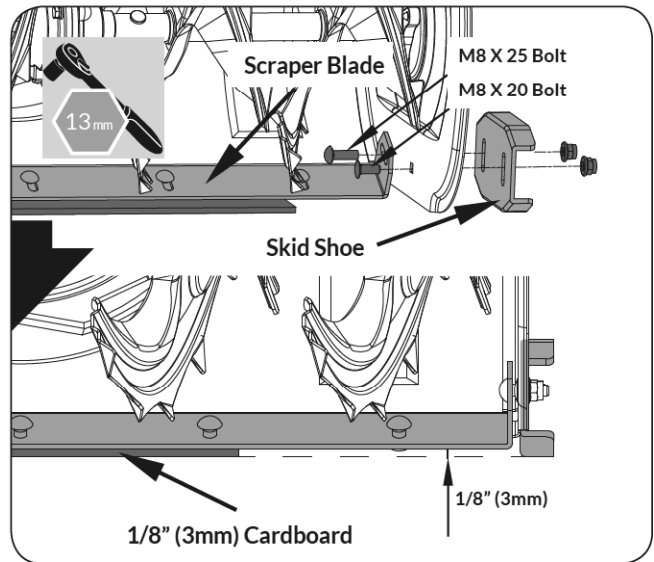

**Figure 7b**
2. Disconnect the Z-fittings from the turnbuckles and hook them into the lower holes in the clutch levers. Thread the turnbuckles without turning the cables onto Z-fittings until there is no slack in the cables. Do not overtighten the cables. Hold the flats on the turnbuckles with pliers and tighten the jam nuts against the turnbuckles. (See **Figure 7b** steps 1 - 4)